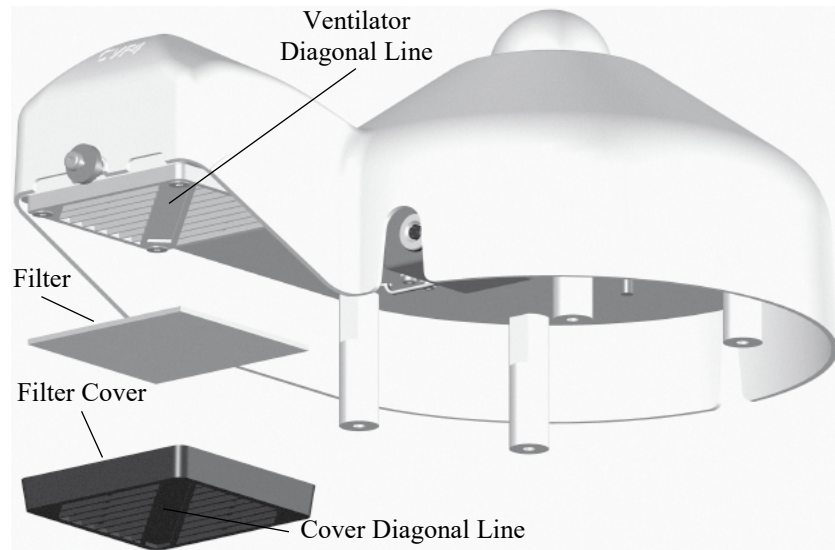

FIGURE C-11. CVF4 filter replacement
3. Regularly inspect the fan inlet by unclipping the cover. For optimal air flow, make sure the diagonal line on the filter cover is in line with the diagonal line on the ventilator (FIGURE C-11). The filter cover clicks back on the ventilator.